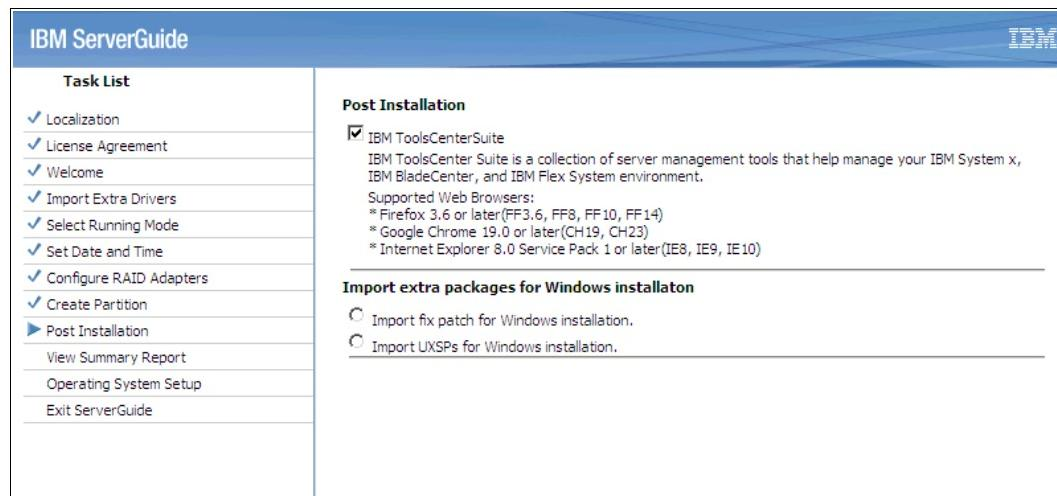

Figure 6-36 Postinstallation options
14. When the process is finished, click **Next**. You can select postinstallation options, as shown in Figure 6-36.